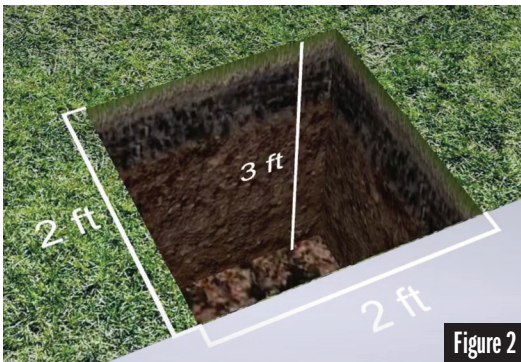

Figure 2
**STEP 3:** Remove the frame and dig a square hole to appropriate depth and dimensions shown in Figure 2.